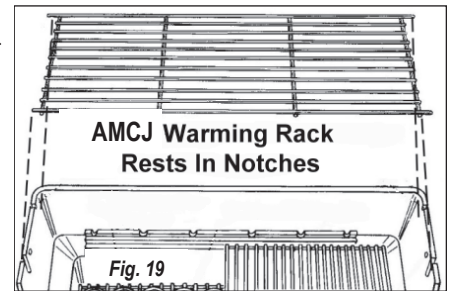

Fig. 19
1. The AMCJ Warming Rack rests in the notches on the top edge of the grill head bottom. (Fig. 19)
## CONNECTING THE LP CYLINDER (Fig. 19)
Install the gas cylinder in the back of your grill, with the open side of the tank valve collar pointing towards the square hole in the tank enclosure. Ensure that all hoses, fittings and regulators are properly protected from heat and accidental damage. Hoses can be burned or chafed if routed improperly. (See Hose and Regulator, page 3). Be sure all burner control valves on the grill are turned "OFF". To connect hose and regulator to cylinder turn coupling nut clockwise as shown in diagram below (Fig. 19). (To remove the quick connect coupling nut, turn counter clockwise). Your MHP Grill comes with a Type I connector, also known as a "Quick Connect Valve" connection. It has a large plastic (coupling nut) that screws onto the propane tank gas outlet. **Note: Your MHP Grill does not come with a propane tank. Therefore, be sure the tank you purchase has this type of hook-up. Also, the cylinder you use must be equipped with a listed overfilling protection device. This can be identified by the triangular hand wheel. (See diagram below and page 5 of these instructions).**